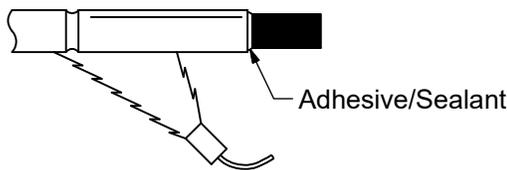

FIGURE 5
- 7) Continue heating until the shrinking is complete and a visual inspection indicates a smooth tight fit and the melted adhesive/sealant is squeezed from the ends. See Figure 5.